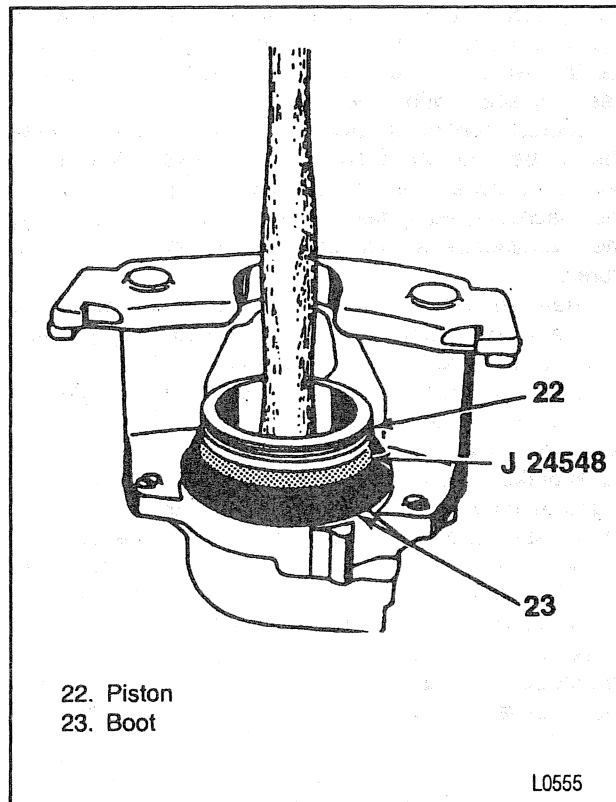

Figure 13—Installing the Piston
5. Piston (22) inside J 24548 (figure 13).
7. Bleeder valve (20).